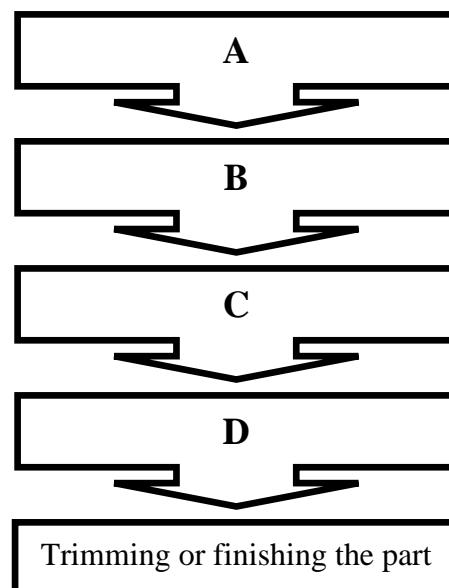

Figure 3c(i): Simple step of blow moulding process
- i. Fill the flow chart in Figure 3c(i) with the steps of blow moulding process.